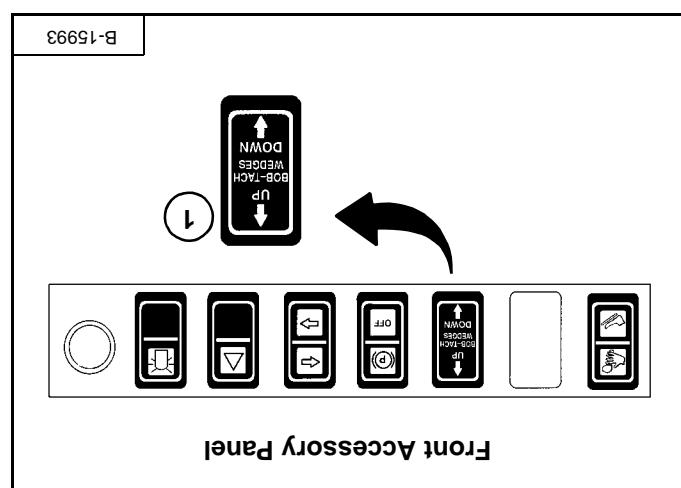

Figure OI-101
Push and hold the BOB-TACH WEDGES UP switch (item 1) [Figure OI-101] until the levers and wedges are fully raised.